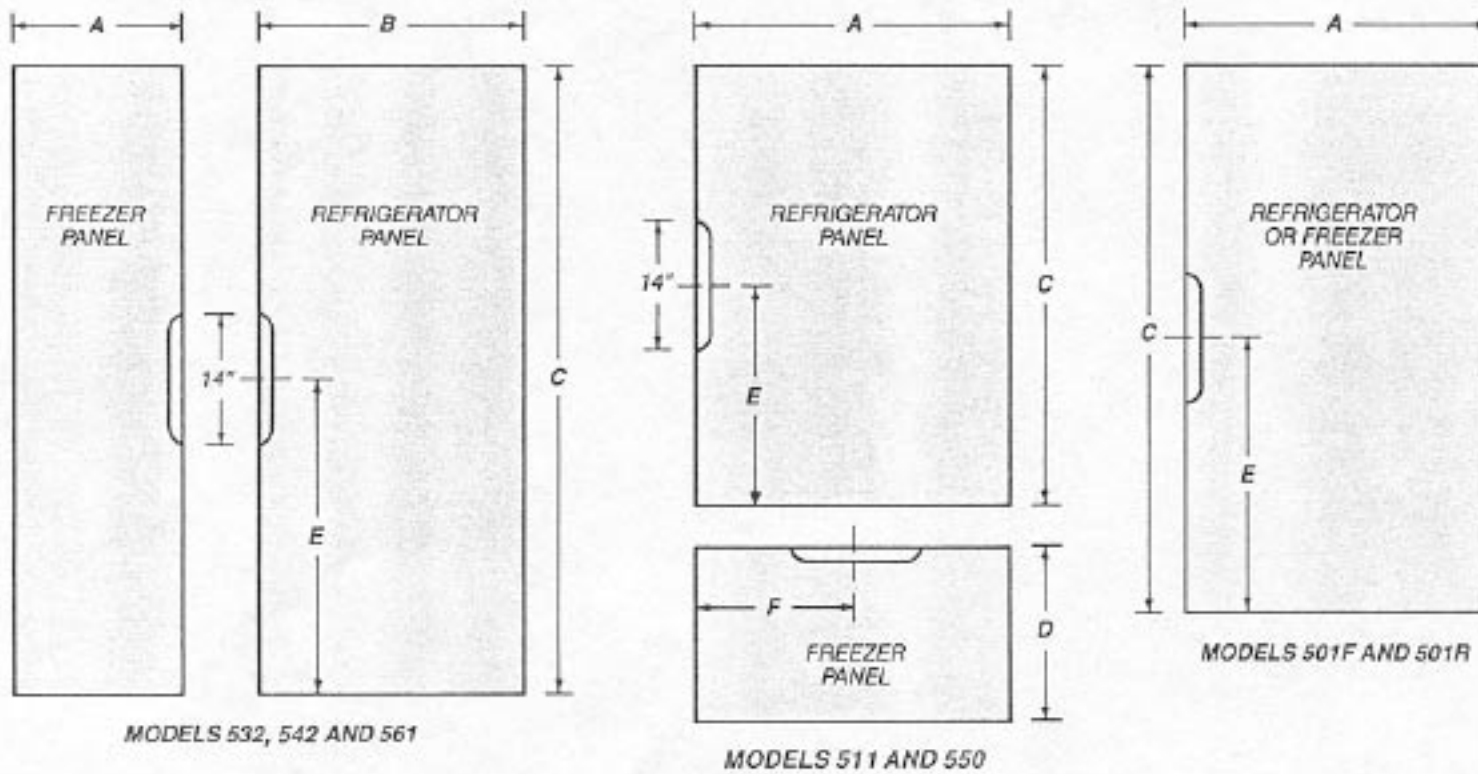

Figure 28
**Routing or Recessing may be required on raised panels for finger clearance under handle. Refer to Figures 28 and 29 — "Handle Recess Specs and Recommendations for Raised Panels."